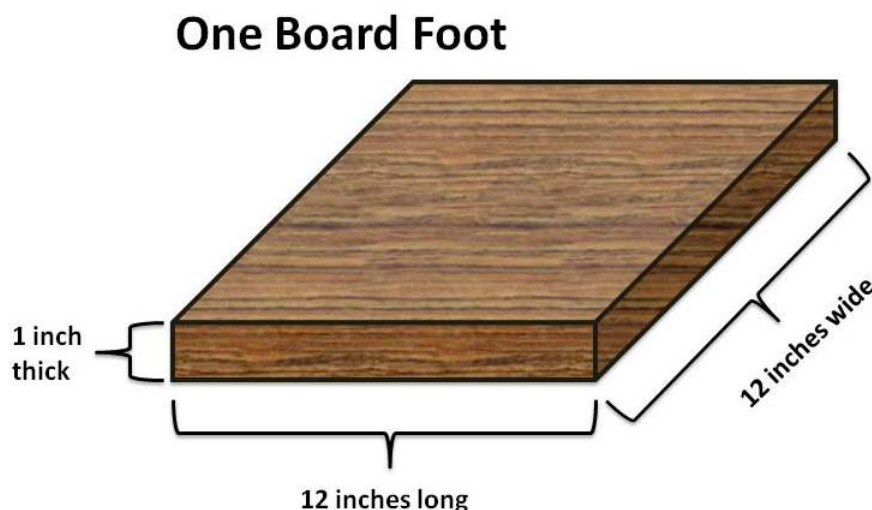

Figure 6. Diagram of a board foot, a unit of wood volume.
When a logging company is considering buying a forest stand, they prefer to use a measure of wood volume called **board feet** (Figure 6). One board foot is a piece of wood one foot long, one foot wide, and one inch thick. More than one board foot becomes *board feet*. Using board feet calculations, one can determine how many objects you can make that may be of use to you out of the wood you harvest.
- Now convert the average wood volume in stand A to board feet: imagine how twelve of the boards in shown in Fig 6 stacked on top of each other would create a cube 1 foot by 1 foot by 1 foot. Therefore there are 12 board feet in a cubic foot. **Remember: 1 board foot is 1 foot \times 1 foot \times 1 inch.**